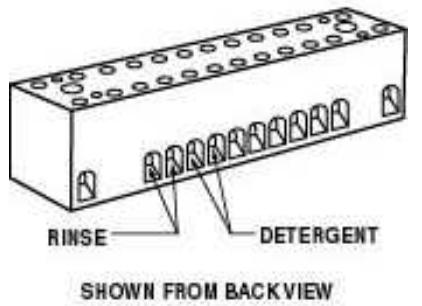

Figure 2.2.3a
2. With the machine's power "OFF", connect your detergent and rinse dispenser wires to the power block supplied and labeled ("DISPENSER 110V - 3 AMPS MAX") inside the control panel drawer. See Figures 2.2.3a, and Figure 2.2.3c.